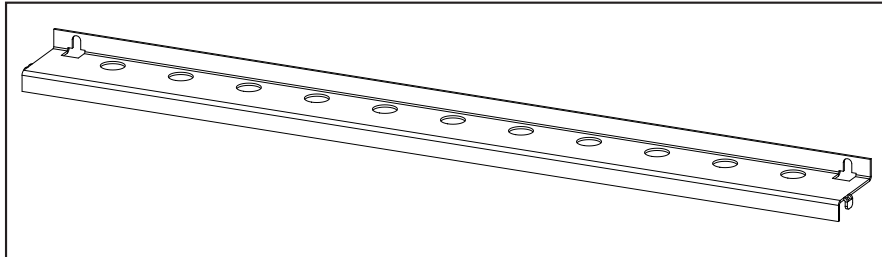
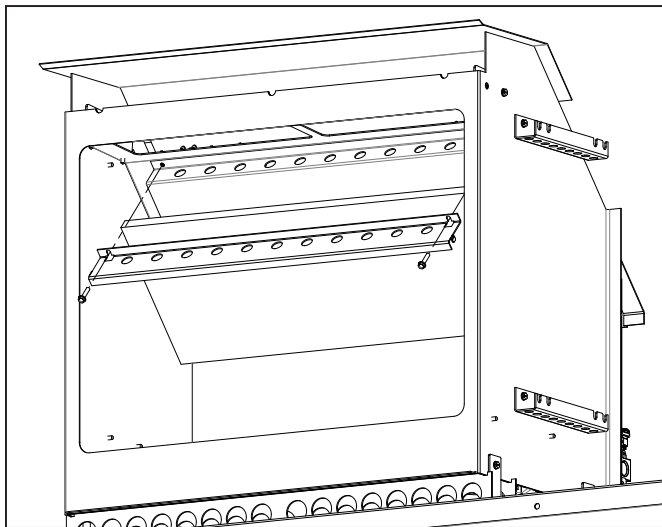

Figure 74: Panel bracket, slots shown.
Figure 75: Top panel placement, screws shown.
1. Remove the two (2) screws from the rear of the baffle, use a 1/4" socket. Place the panel bracket (Figure 74) at the rear of the baffle with the slots over the screw holes (see Figure 75). Insert two (2) of the provided screws into the two (2) holes along the bottom of the baffle.
2. Remove the two (2) screws from the front of the baffle. Slide the top brick panel into the bottom bracket and place the other bracket over the top of the panel and line up the slots on the bracket with the holes at the top of the baffle. Use two (2) of the provided screws to hold the bracket in place. Ensure the top panel is centered before tightening the four (4) screws completely (refer to Figure 75).